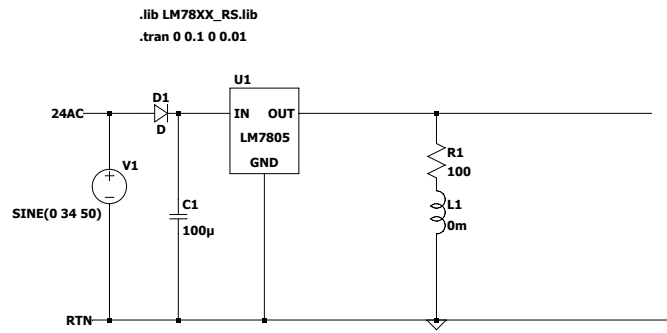

Figure 2.1: A circuit driagram of sorts
- Circuit diagram like the one in Figure 2.1. I used “print to PDF” from LT-Spice, but feel free to use a cropped screengrab if you are PDF-challenged and do not have a PDF printer (there are some free PDF creators online).